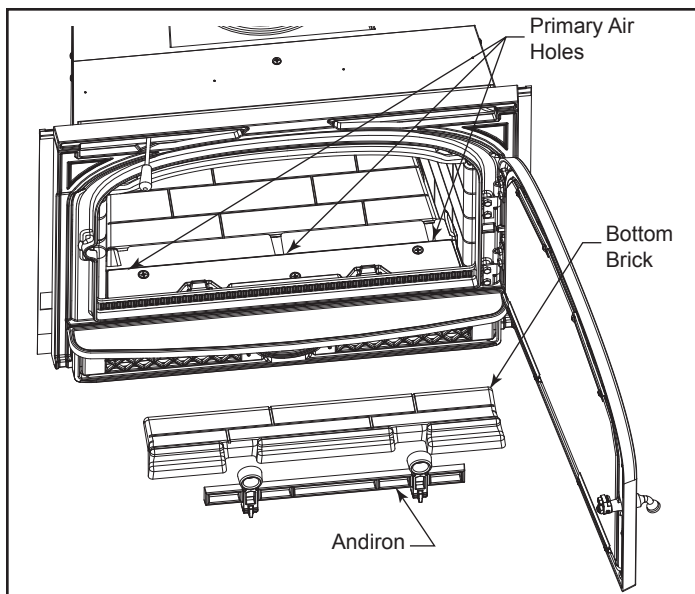

Figure 11 - Keep primary air holes free of ash for proper performance.
Check the ash level, and remove excess ash. Three (3) primary air holes located under the front brick provide air to the coal bed. (Figure 11) These holes should be cleared of ash for proper performance.